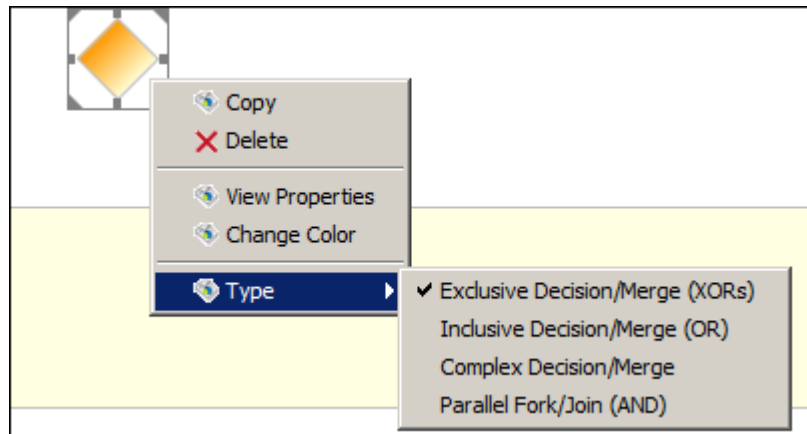

Figure 11: Select Gateway Type
5. To select the type of gateway, right click it, point the cursor to the **Type** option and select the type of gateway that you want to use (see Figure 11).